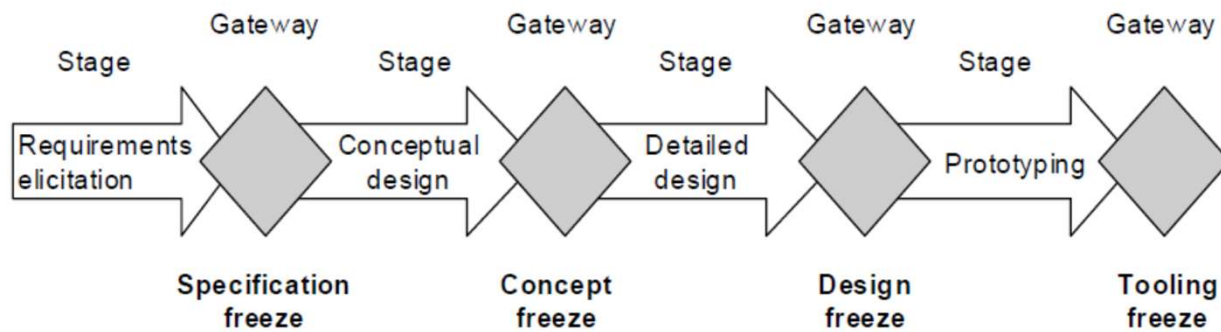

Figure 1. Different freezes in a stage-gateway process
- Figure 1 shows a typical stage-gateway process that can be found in similar forms in.
- In figure 1, the term “design freeze” refers to one point in time at the end of the detailed design phase at which the final version of the technical drawings is signed off and released to production.